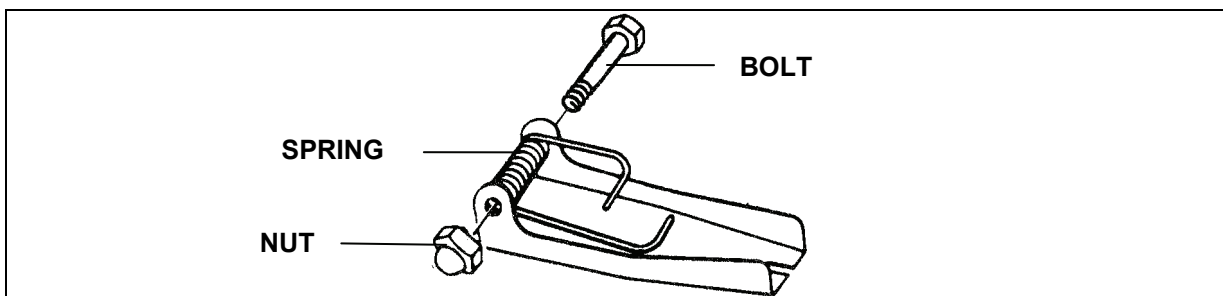

Figure 6-19. Spring-Keeper Assembly
- Tilt the grabhook and remove the spring and keeper (Figure 6-19).